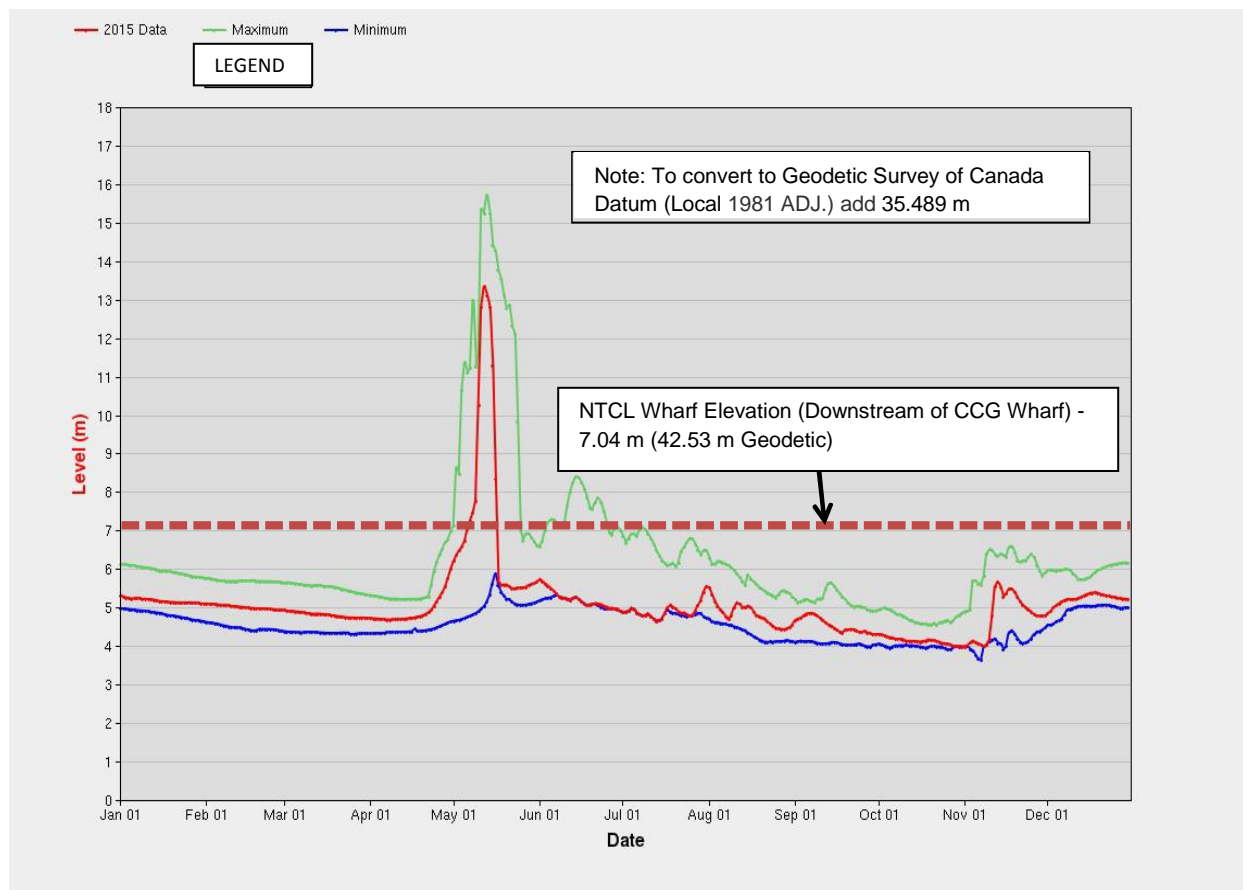

Figure 1: Mackenzie River Water Level at Station 10KA001, 2002 to 2015
- .2        The monthly water levels on the Mackenzie River, using data from 2002 to 2015, are shown in Figure 1.